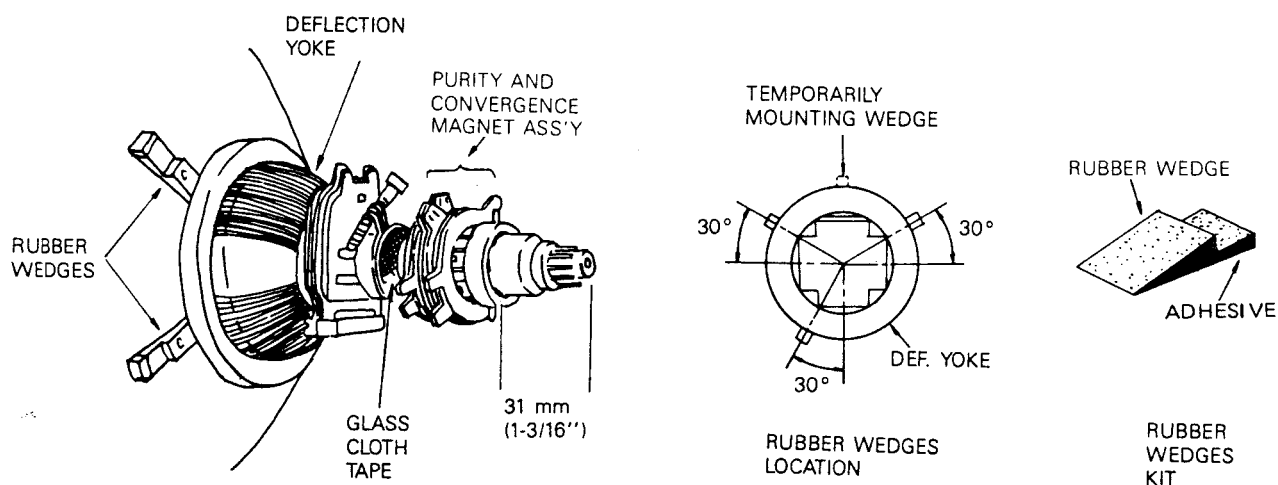

Figure 2.
2. Put a wedge as shown in figure 2 temporarily. (Do not remove cover paper on adhesive part of the wedge.
5. Tilt front of the yoke right or left to obtain better convergence in circumference. (See figure 2).
9. Stick 3 adhesive tapes on wedges as shown in figure 2.